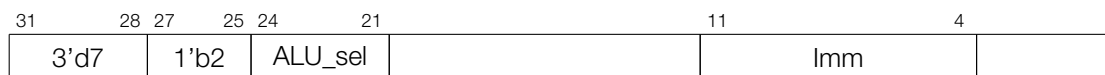

Figure 143: Instruction Type — ALU for Operations with Stage Count Register
ALU is also able to increment/decrement by a given value, or reset the 8-bit register Stage\_cnt. To do so, bits [27:25] of instruction in Figure 143 should be set to 1'b2. The type of operation depends on the setting of the instruction's bits [24:21] presented in Table 127. The Stage\_cnt is a separate register and is not a part of the instruction in Figure 143.
**Operand**    **Description** - see Figure 143